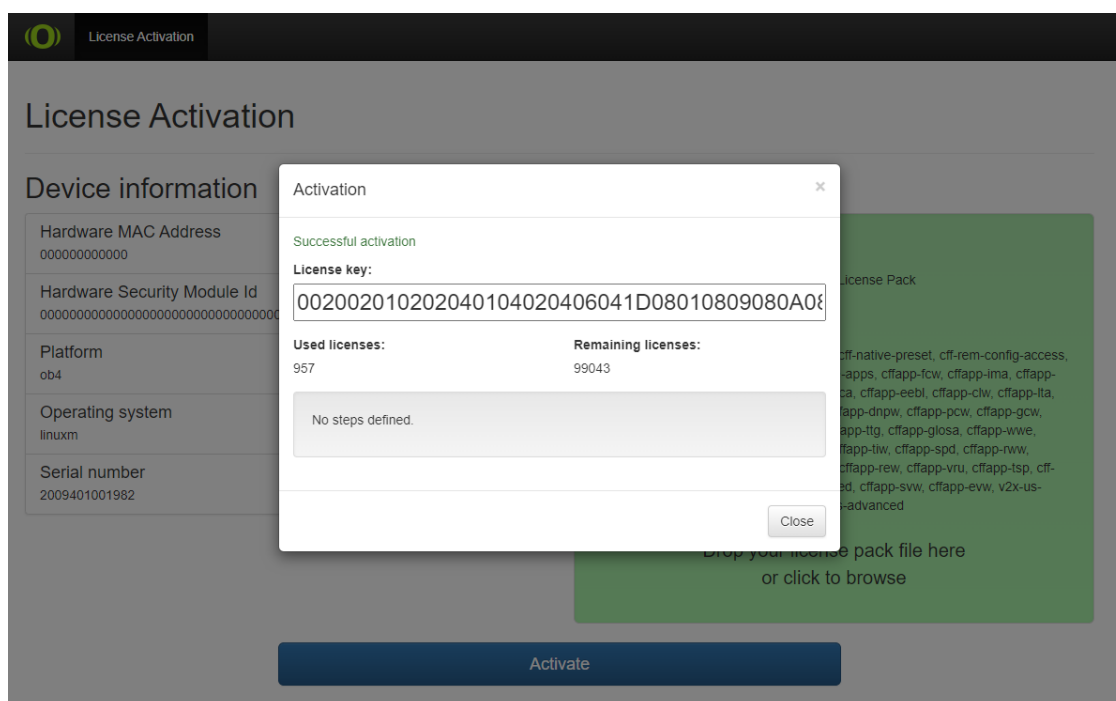

Figure 44. Generation of a new license key
5. After the validation of the license pack, a new license string will be displayed, as shown in Figure 44.